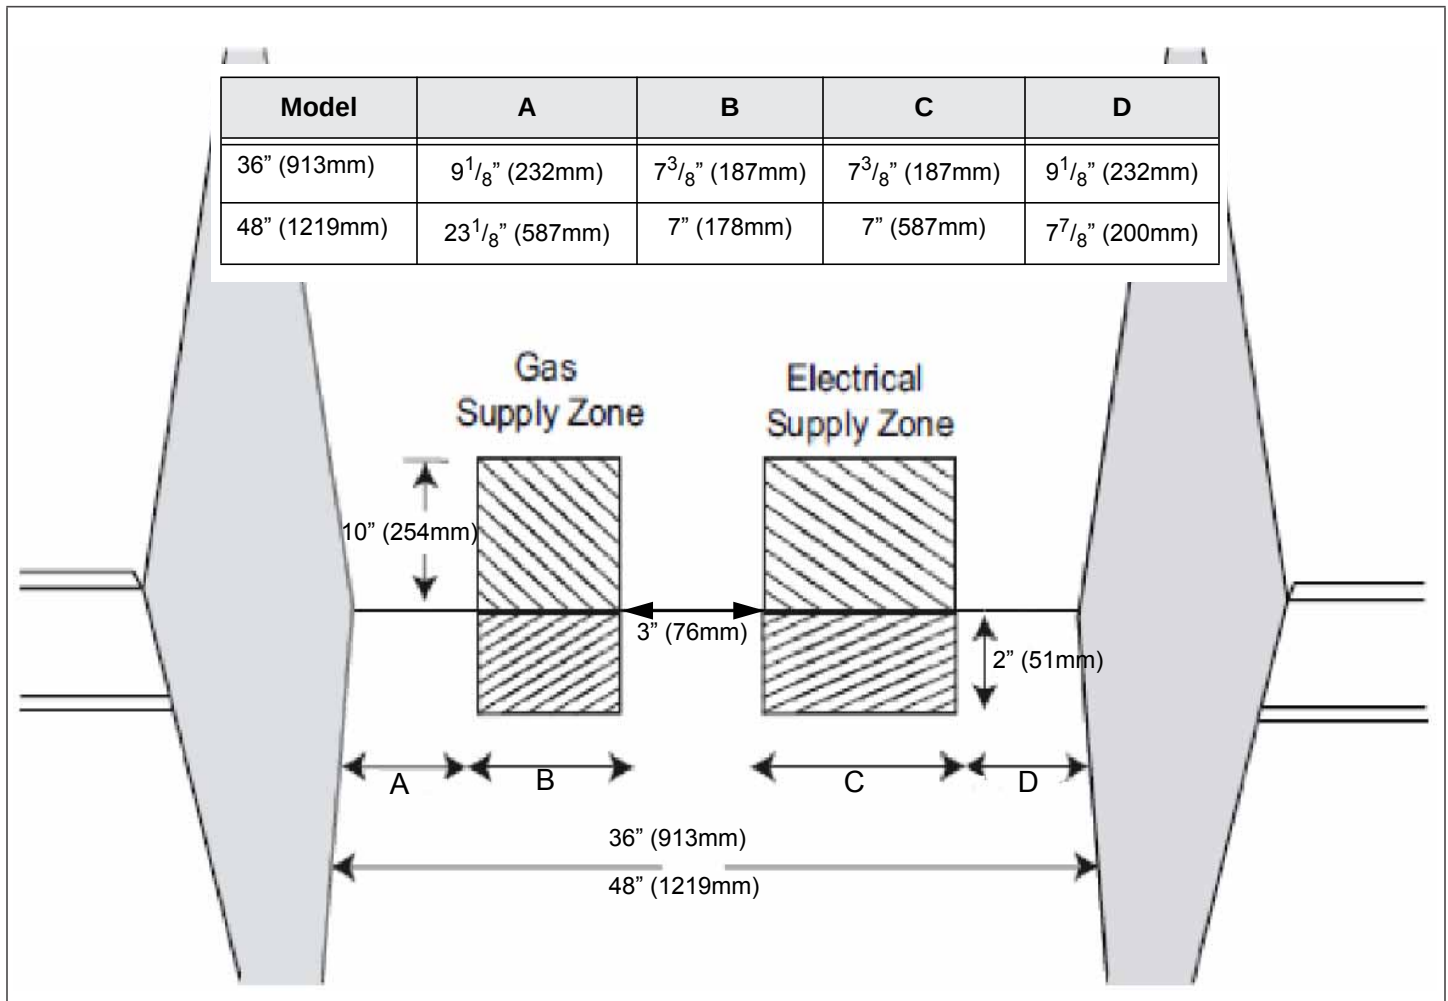

FIGURE 3: GAS & ELECTRICAL SUPPLY LOCATIONS
- The gas and electrical supply should be within the zones shown in Figure 3 on page 7.